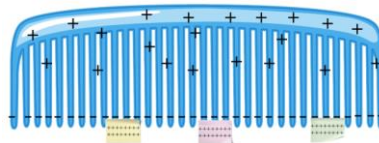

Fig. 1.23 Piece of the paper attracted towards the comb
Step 3 – A piece of paper, which is an insulator, can become positively charged. When a charged comb is placed near the paper, it will attract the paper. Figure 1.23 demonstrates how the charged comb pulls the piece of paper towards itself.